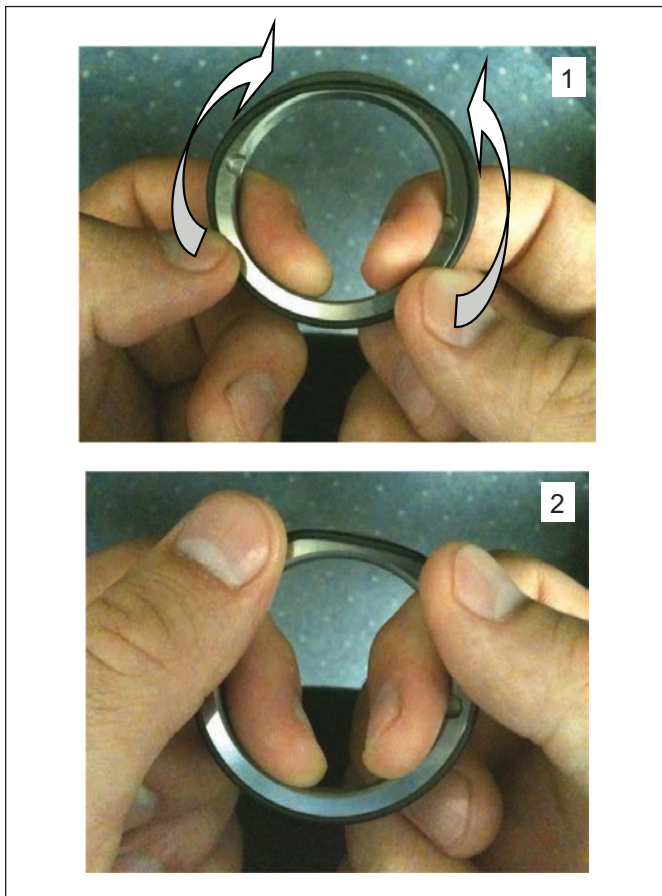

Figure 29. Installing the Rotating O-Ring
3. Next install the rotating o-ring onto the rotating seal by stretching it (not rolling) onto the rotating seal (Figure 29).